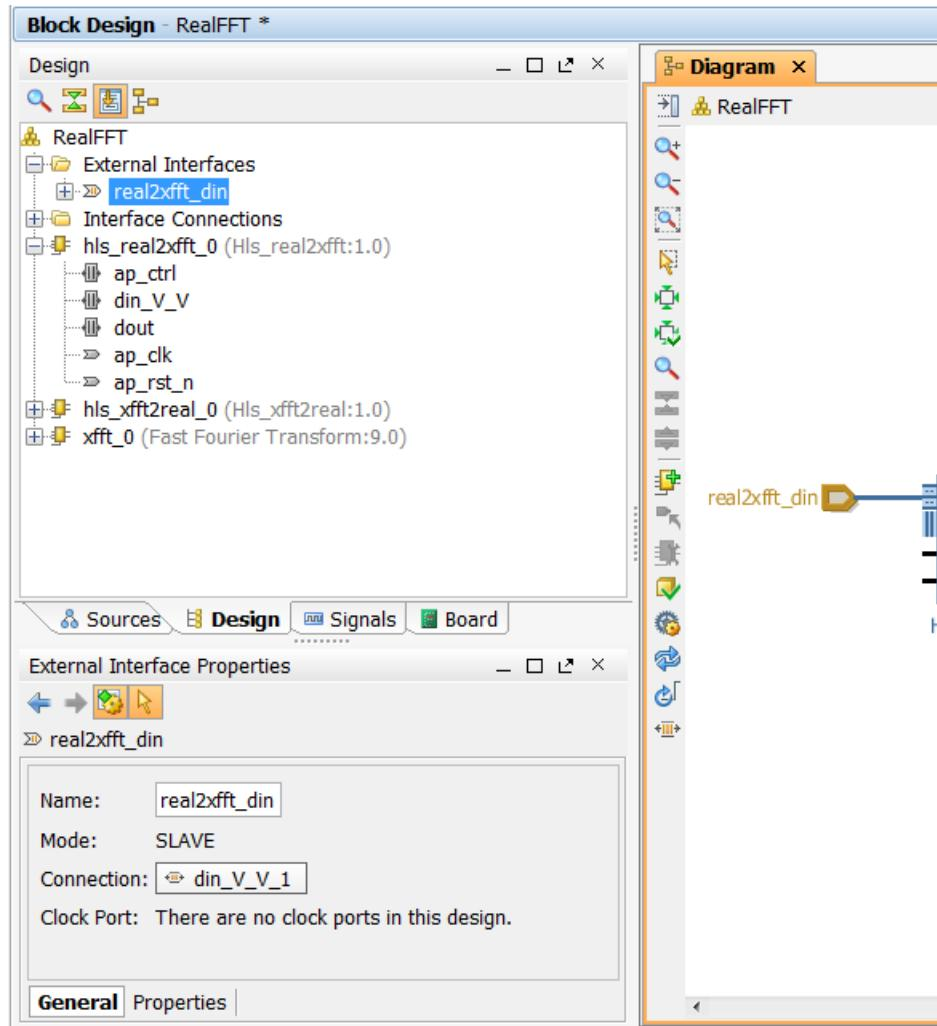

Figure 9-20: Port Naming
- In the External Interface Properties pane (Figure 9-20), double-click in the Name text entry box to highlight **din_V**.